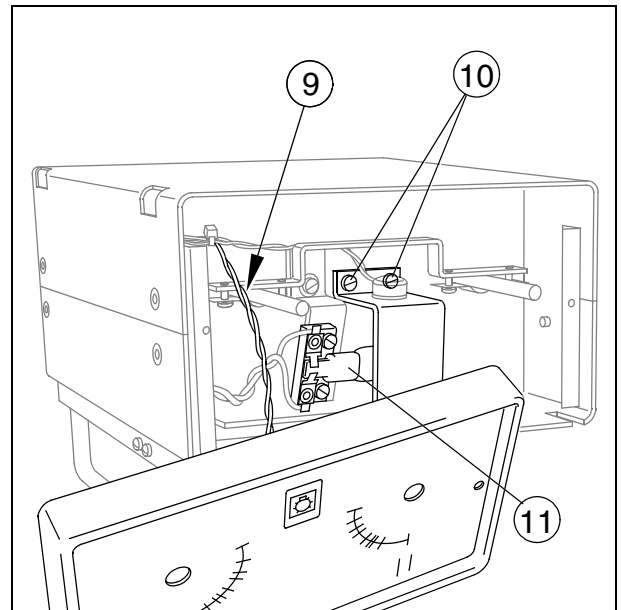

Fig. 5
**Caution:** Front panel is connected to collimator via cables (9/Fig. 5).
**Caution:** The frontpanel is connected to the collimator via cables (9/Fig. 5).
- Loosen both screws (10/Fig. 5) and unscrew the bracket carrier of the temperature switch).
- Take out the defective lamp (11/Fig. 5) and replace it by a new lamp.